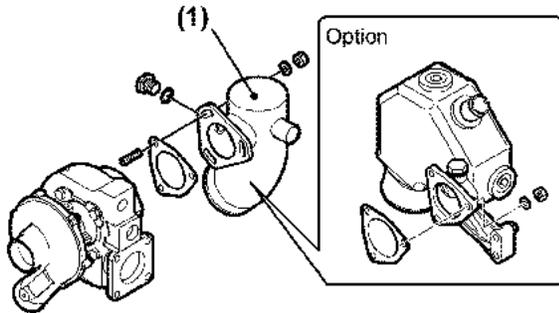
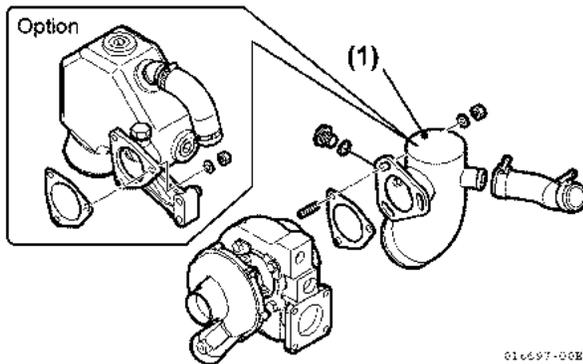

Figure 9-5
Figure 9-6
- Remove mixing elbow for 4JH4-TE (Figure 9-5, (1)) and 4JH4-HTE (Figure 9-6, (1)). See *Remove cooling system components from engine*, on page 5-26.